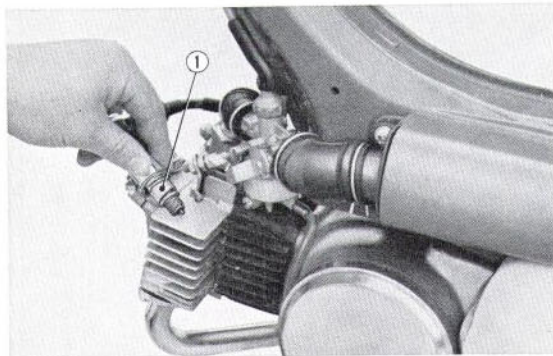

Fig. 3.3
1. First, check to see that the high voltage is being delivered to the spark plug. Ground the spark plug on the engine as shown in **Fig. 3.3** and perform the starting process. If bluish white spark is seen jumping across the plug points, it is an indication that the spark plug, ignition coil, flywheel, A. C. generator are in good condition.